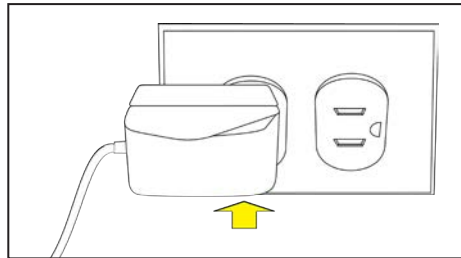

Figure 15. Plugging the ac adapter into a live outlet.
STEP 4. Plug the ac adapter into a wall outlet. See Figure 15.